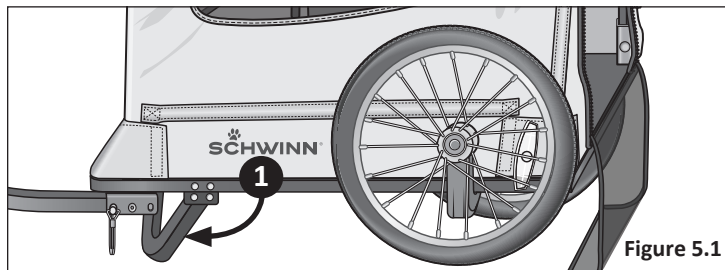

Figure 5.1
- 1 Engage the loading break *before* loading the pet by rotating the brake by hand, towards front of trailer. Be sure the loading brake is disengaged before riding. **Figure 5.1**